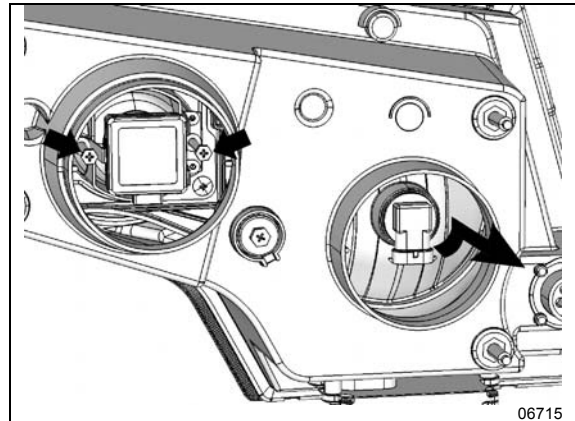

FIGURE 25: HEADLIGHT ASSEMBLY REAR VIEW
5. HALOGEN: turn the bulb base counterclockwise. XENON: Unscrew the Phillips head screws indicated by arrows, pull the retainer and bulb out (FIGURE 25).